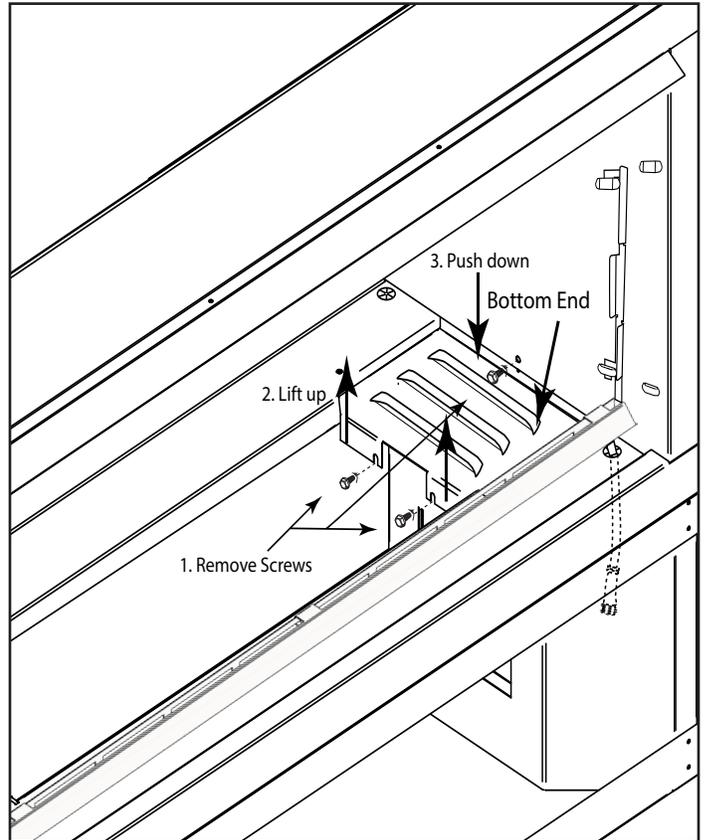
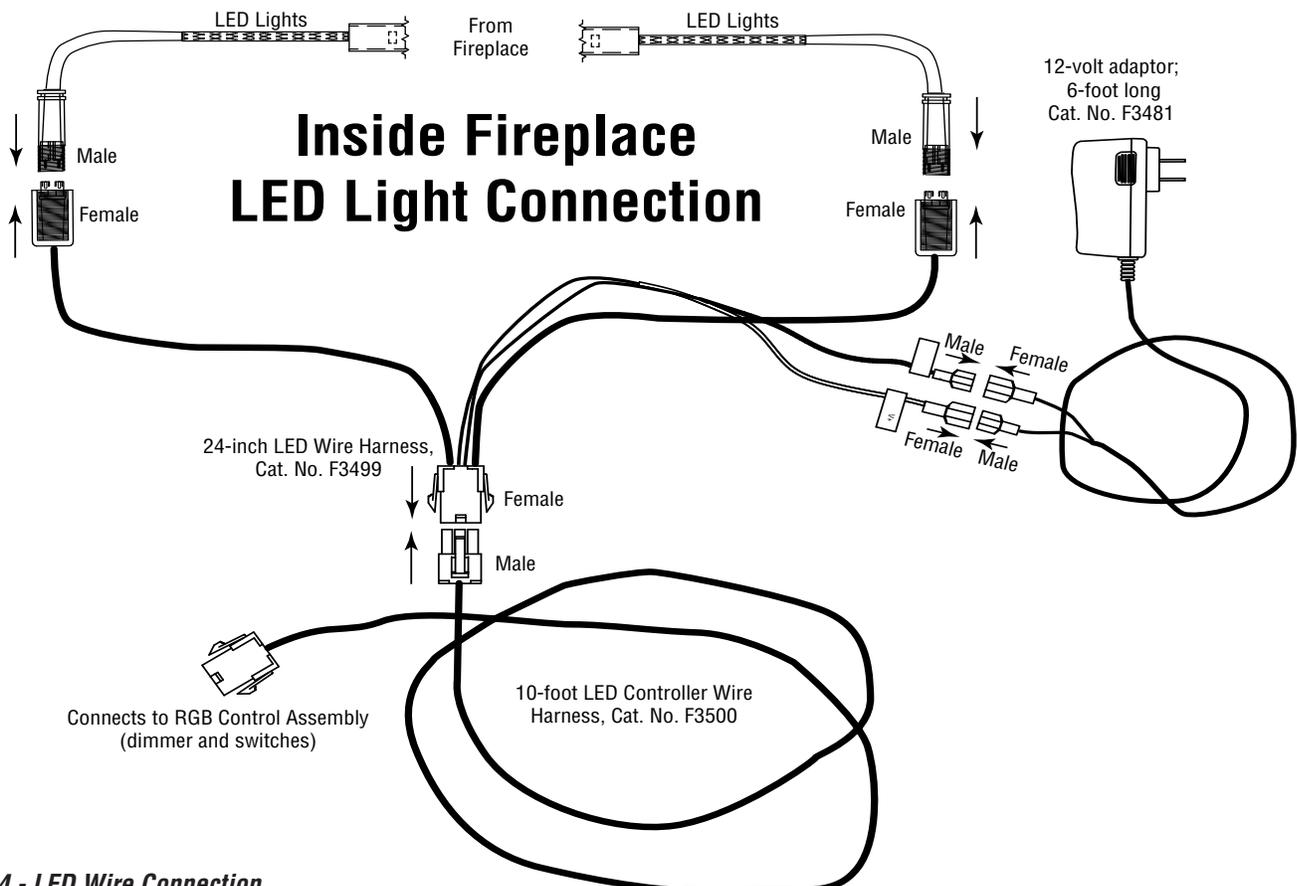

Figure 23 - Removing bottom end
Figure 24 - LED Wire Connection
**Step 7:** If needed, remove the screws from the “bottom end” of the burner pan area to provide additional room for wiring the LED lights. The “bottom end” fills the space between the burner pan and the fireplace side panel. It is held into place with three (3) screws. See Figure 23. First remove the two inside screws, then the screw securing the side wall. Lift up the area where the two screws were and push down where the single screw was, then lift the bottom end out of the fireplace.
**Step 8:** Using Figure 23 below, insert the LED channel assembly female connector part, Cat. No. F3499 (protruding through the wire grommets) to the LED male connector. The male end of the LED connector will only insert into the female connector in one direction. Once locked in position, screw the threaded cap of the female connector securely over the male connector. Note: If you are using one set of LED lights the other female connector Cat. No. F3499 will not be used. See Figure 24.
**Step 9:** Attach Cat. No. F3499 to F3500 using the molex connectors. After connecting the LED lights into the F3500 wire harness insert the 12-volt adapter 77102 with 1/4” terminals into the (red & black wires) of LED wireharness. Plug the 12-volt adapter into the 120VAC GFCI box with weather proof cover. See Figure 24, page 18.